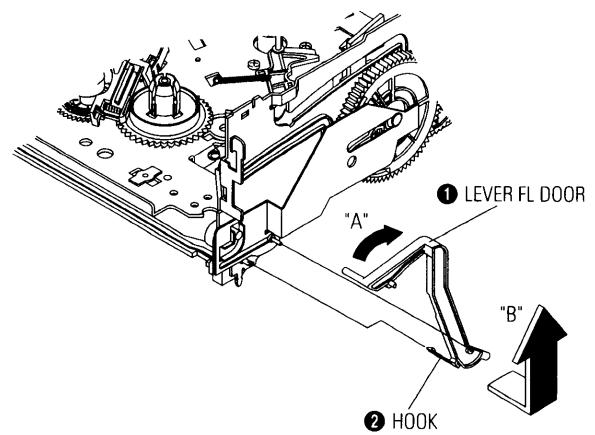

Fig. 4-10 Lever FL Door Removal
- 1) Remove the Lever FL Door. (Refer to Fig. 4-10)
- 2) Pull the Holder FL Cassette Ass'y ① to the eject position.
- 3) Pull the Holder FL Cassette Ass'y ① as grasping the Holder FL Cassette Ass'y ① and Lever FL Cassette-R ② in the same time to release hooking from Main Base until the Boss [A], [B] of Holder FL Cassette Ass'y ① is taken out from the Rail [C], [D].
- 4) Lift the Holder FL Cassette Ass'y ① in the direction of arrow "B" in this time, you have to grasp the Lever FL Cassette-R ② continuously until the Holder FL Cassette Ass'y ① is taken out completely.